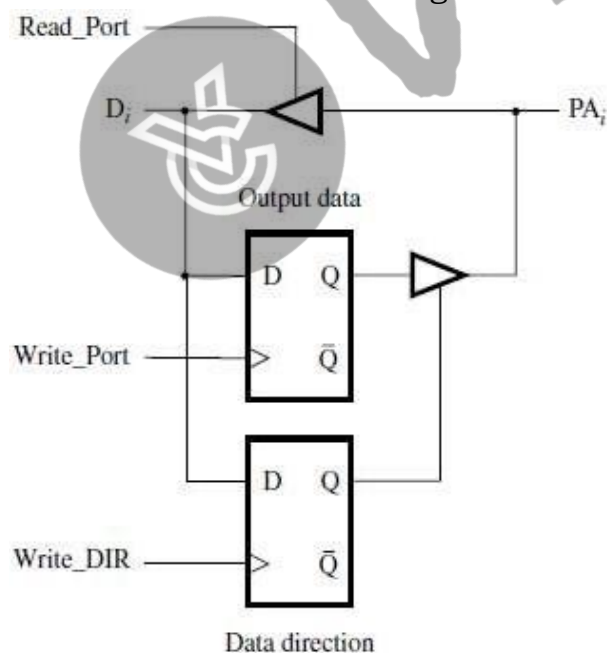

Figure 10.5 Access to one bit in port A in Figure 10.4.
- If the data direction flip-flop contains a 0, then Port pin **PA_i** is treated as an input (Figure 10.5). If the data direction flip-flop contains a 1, then Port pin PA_i is treated as an output.